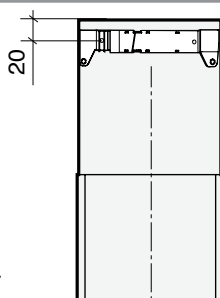

Fig. 7
1. Adjust the width of the mounting bracket to suit the chimney size of your extractor and mark 2 points on the wall, 20mm down from the ceiling for the fixings (fig 7).